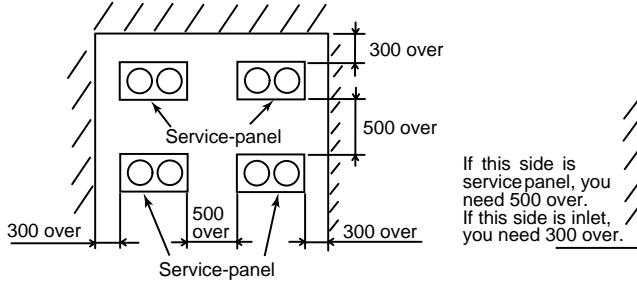

Fig 3
### (2) Relation of unit when many set up unit. (Fig 3,4,5)